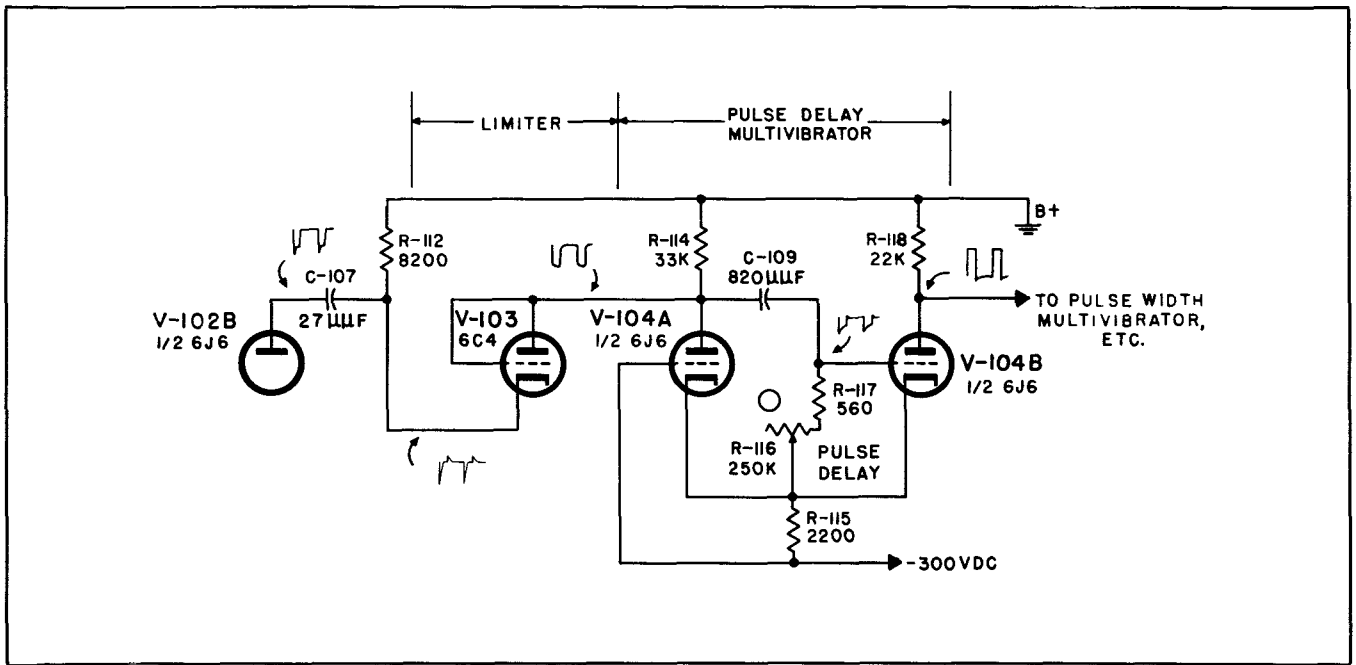

Figure 3-12. Limiter and Delay Multivibrator
c. **LIMITER.**—V-103 operates as a series diode limiter and is designed so that it will pass negative voltages but is an open circuit for positive voltages (figure 3-12). The circuit has been designed in this way because the output of V-102B is always a negative pulse and by differentiating this pulse a negative trigger is obtained at the leading edge of the pulse and a positive trigger at the trailing edge of the pulse. The negative trigger is passed by the limiter while the positive trigger is blocked. Therefore, a negative trigger is available which is simultaneous with the leading edge of the pulse obtained from V-102B. In turn the pulse obtained from V-102B is approximately simultaneous with the external pulse applied to the instrument, when an external pulse is applied to the instrument.
d. **DELAY MULTIVIBRATOR.**—The negative trigger passed by the series diode limiter V-103 is applied to V-104, the Delay Multivibrator (also shown in figure 3-12). This multivibrator provides a time delay between the pulse obtained from the Pulse Rate Multivibrator and the pulse which is applied to the rf oscillator